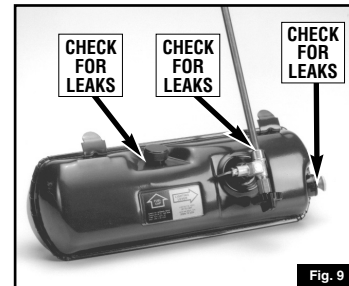

Fig. 9
- CHECK FOR LEAKS in one or more ways. Look for fuel mist or a wet appearance of fuel on surfaces. Listen for hiss of escaping gas. Smell for fuel odor. Never use a flame. Do not use if leaking. (Fig. 9)